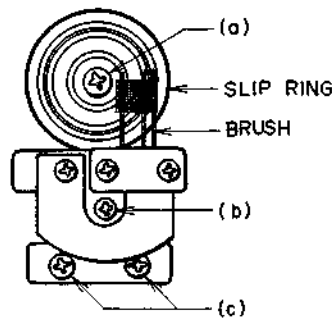

Fig. 4-13
- 1) Mount the slip ring using screw (a) in Fig. 4-13 in a position which ensures correct and smooth rotation of the ring.
- 2) Secure the brush using screw (c) in Fig. 4-13 in such a way that the end of the brush is aligned with the groove in the slip ring.